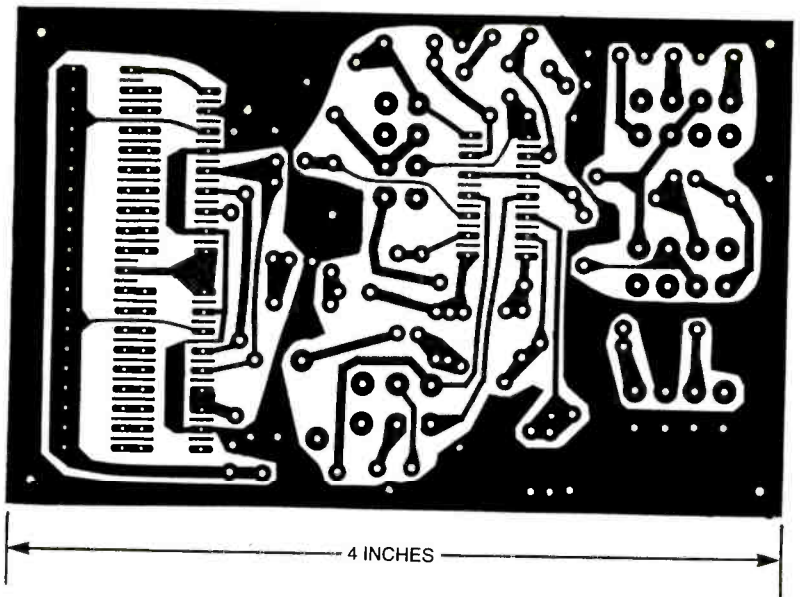

Fig. 2. The EMF Meter was assembled on a printed-circuit board, measuring 4 by 2 1/2 inches. A full-size template of the board's foil pattern is shown here.
**Construction.** The EMF Meter was assembled on a printed circuit board measuring 4 by 21/2 inches. A full-size template of the printed-circuit board's foil pattern is shown in Fig. 2. That template can be lifted from the page and used to etch you own printed circuit board. The board is supplied with the kit from the supplier given in the Parts List.